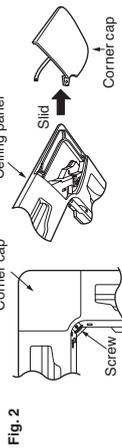

Fig. 2
### 4. Cabling (See Fig. 2.)
<Fig. 2>
2. Take off the screw fixing the corner cap and remove the corner cap sliding it side-ward. (Fig. 2)